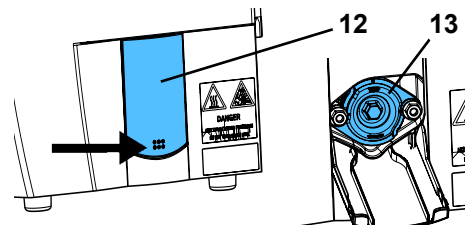

Fig. 1
Plaster models or investment models can be left to dry on the model tray (2, Fig. 1).
⇒ Screw in the tank cap (1, Fig. 1).
Place the unit so that there is no risk if steam is discharged from the outlet opening of the overpressure valve (14, Fig. 1). For example, do not place the unit in front of an electrical socket.
The outlet opening of the overpressure valve (14, Fig. 1) must not be closed or blocked in any way.
Danger due to pressurized steam! Before opening the revision cap, ensure that the pressure tank is no longer pressurized. To do so, open the tank cap (1, Fig. 1) and remove it.
- ⇒ Place the unit so that water can flow from the service opening (12/13, Fig. 1) into a sink.